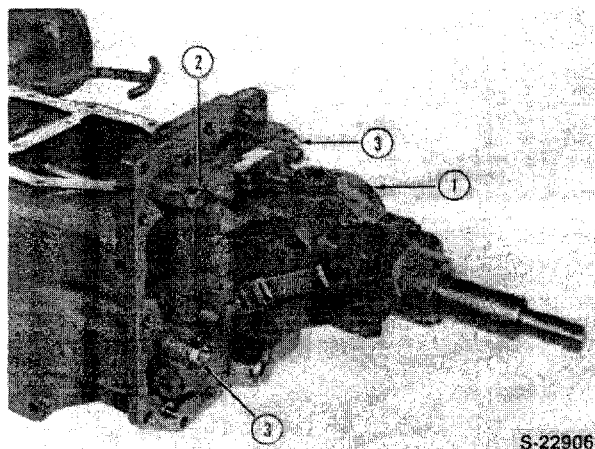

Figure 42
4. Remove the hydrostatic unit retaining bolts and nuts and remove the hydrostatic unit from the transmission case, Figure 42.